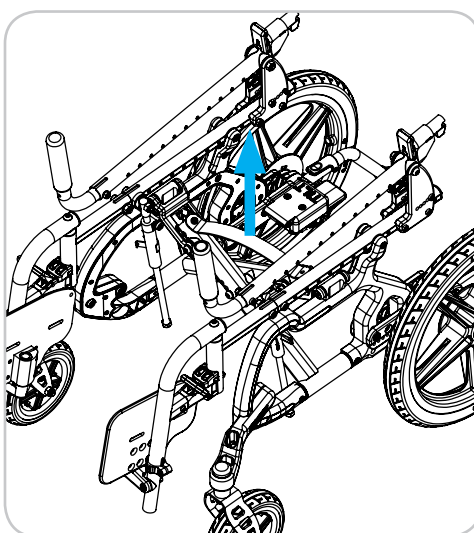

Figure 9
7. Pull up on the folding strap. Reference Figure 9.